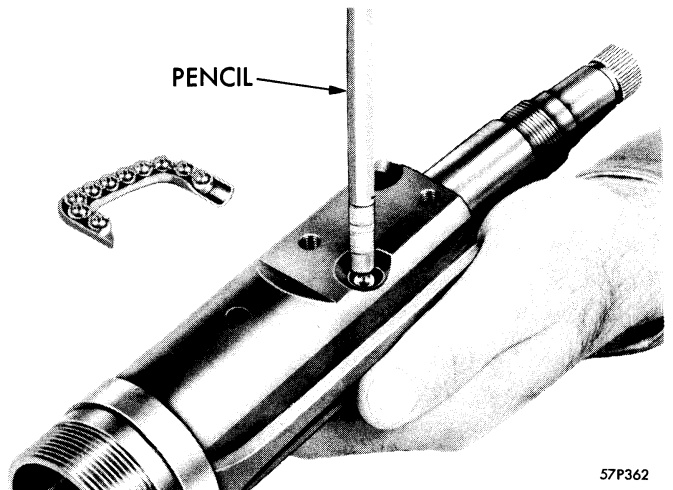

Figure 55—Installing Balls in Worm Connector
Slide the worm into the connector and visually align the upper portion of the passages with the ball guide holes. Insert 30 balls (no more), into lower hole by pushing them gently, using the rubber end of a pencil, and at the same time, oscillating the worm, as shown in Figure 55. When 30 balls have been inserted, they should be visible in the upper hole. Place the remaining balls (10) in either half of the ball guide. Grease the end balls to help hold them in place, then place the other half over balls.